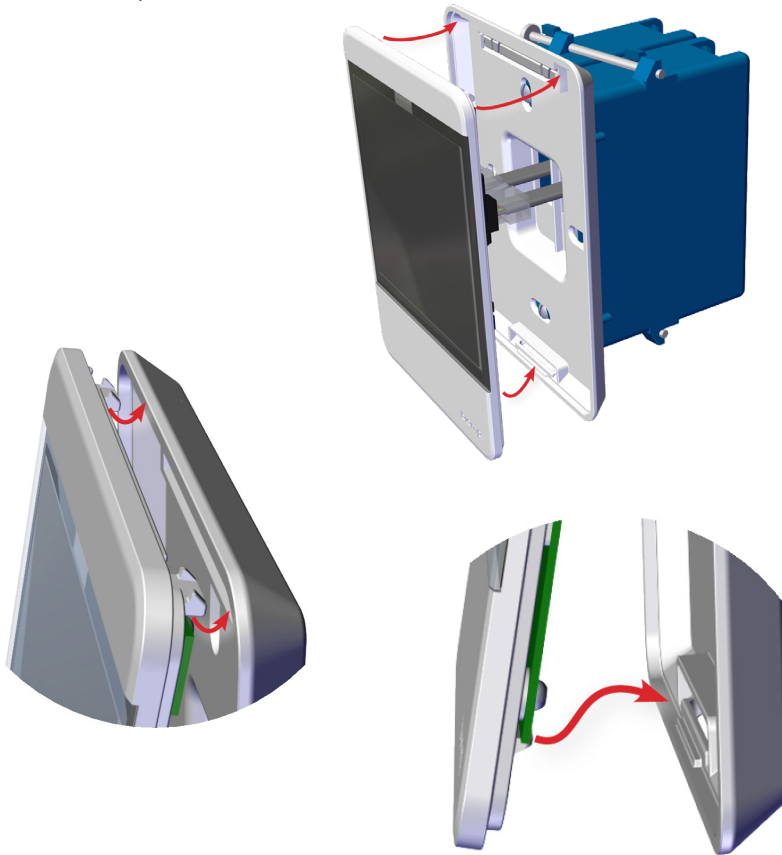

Figure 6. Clip Installation
- a. See Figure 6. Align the upper clips into the two receptacles at the top of the back plate.